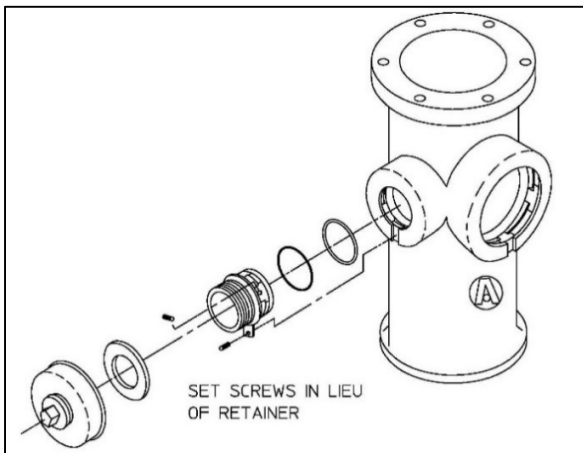

Figure 5 – For Reference Only: Amlok Nozzle
7. As referenced in the Hydrant Reinstatement Section, and detailed in Figures 3 and 4, a metal tag must be placed on all 2005 to 2011 hydrants, including those with an Amlok nozzle system and other hydrants not requiring nozzle replacement, to show the hydrant has been inspected. Use Figure 5 to aid in identifying an Amlok nozzle.